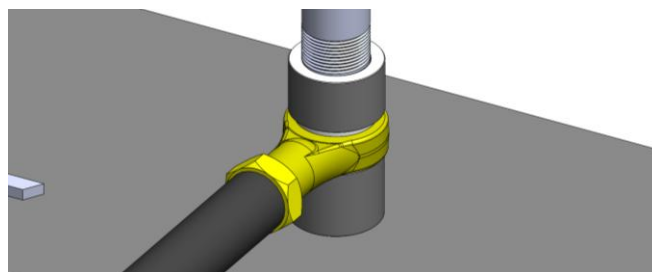

Figure 5: Bushing pressed out
- Keep your hands clear of the press and push the bushing out of the forging. The worn bushing will fall into the sleeve (Figure 5).